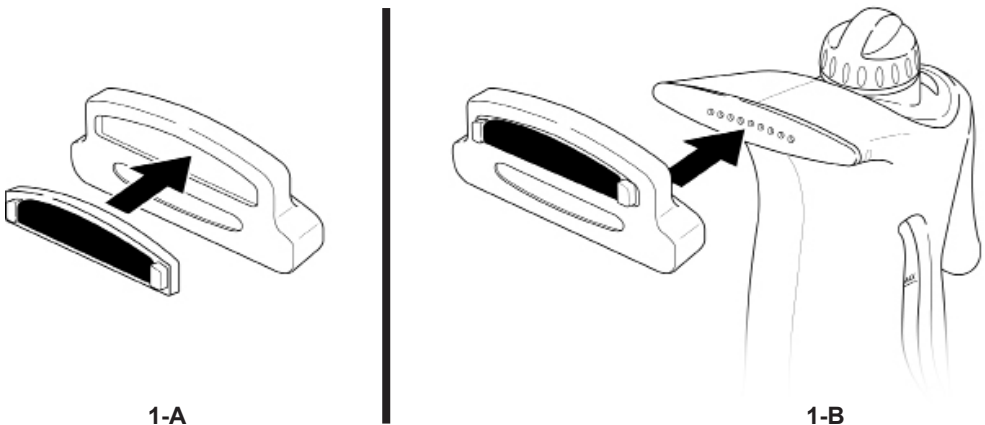

FIGURE 1
2. Insert your selected accessory into Accessory Adapter (FIGURE 1-A).
3. Slide Accessory Adapter (with inserted accessory) onto Steam Nozzle (FIGURE 1-B). Make sure Accessory Adapter is oriented as shown, to prevent blocking steam flow.